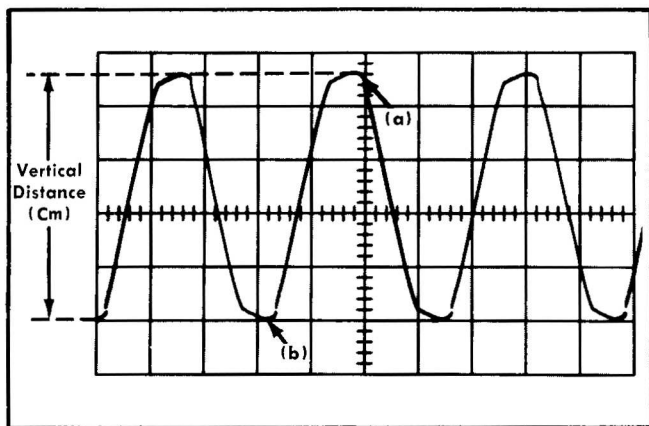

Fig. 3-1. Measuring the peak-to-peak voltage of a waveform.
5. Use the Channel 1 POSITION control to vertically position the waveform to a point on the CRT where the waveform amplitude can be easily determined. For example, position the waveform so that the negative peaks coincide with one of the lower graticule lines and one of the positive peaks lies near the graticule vertical centerline (see Fig 3-1).
In measuring signal amplitudes, the width of the trace may be an appreciable part of the overall measurement. To make the measurement as accurate as possible, measure from one side of the trace (particularly when measuring low-amplitude signals). Notice in Fig. 3-1 that both points (a) and (b) correspond to the bottom side of the trace. The measurement would be just as accurate if points (a) and (b) corresponded to the top side or center of the trace.